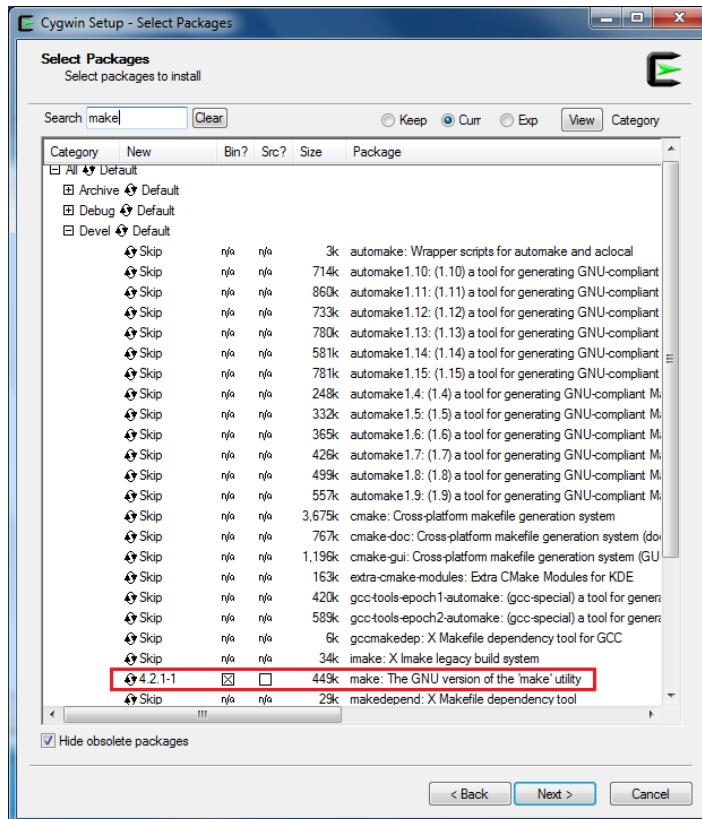
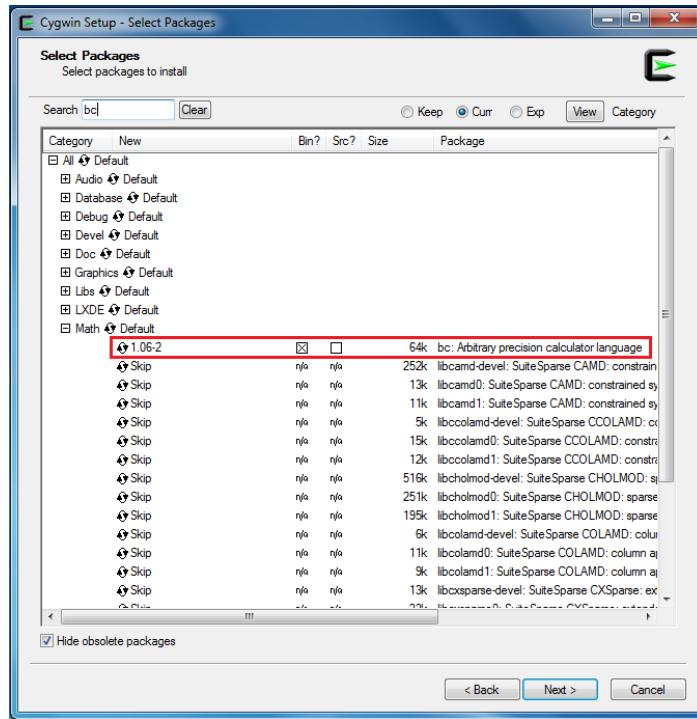

Fig 1-1 ‘Devel’ setting during Cygwin installation
Fig 1-2 ‘Math’ setting during Cygwin installation
- During the installation of Cygwin package, include ‘Devel -> make’ and ‘Math -> bc’ utilities on the **Select Packages** step, as Fig 1-1 and Fig 1-2 shows.